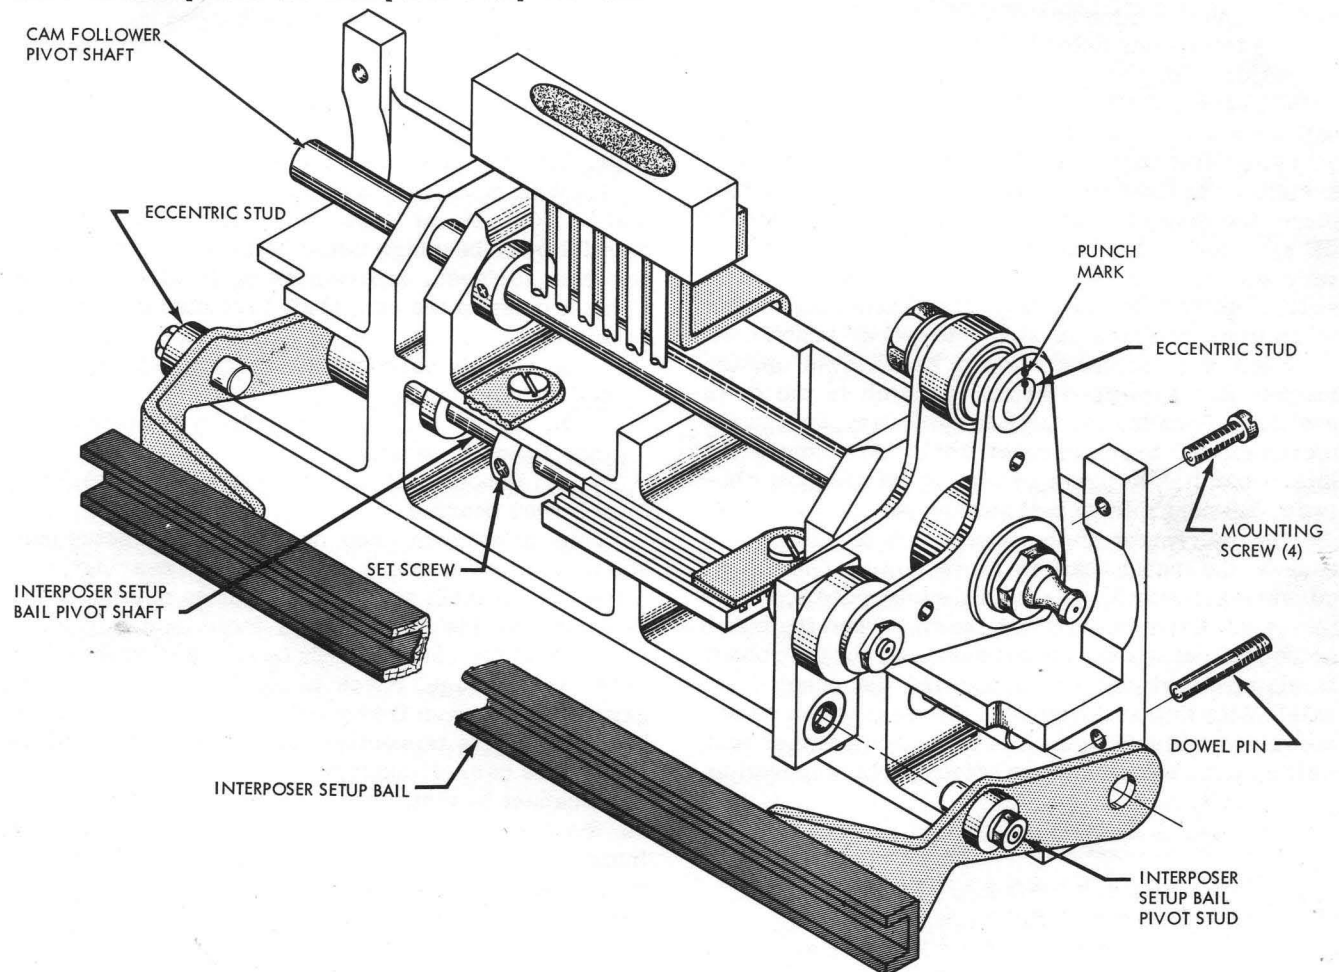

Figure 4-12. Cam Follower Assembly
3. Remove two dowel pins in cam follower mounting plate (Figure 4-12).
4. Remove four mounting screws (Figure 4-12).